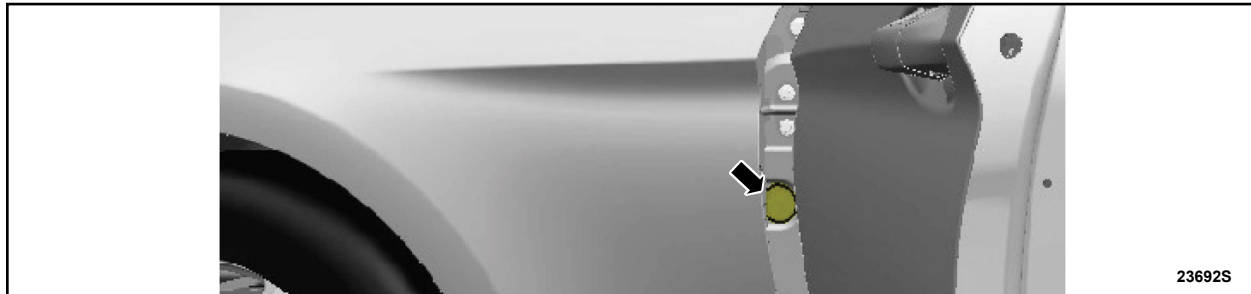

FIGURE 1
2. On both sides, inspect the A-pillar body hole. See Figure 1.
6. On both sides, use fingers and/or pliers to completely remove and discard the A-pillar body sticker seal. See Figures 1 and 2.